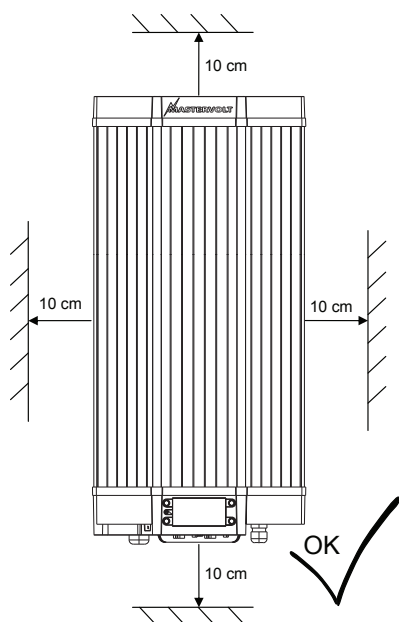

Figure 3
- No objects must be located within a distance of 10 cm around the Sunmaster (figure 3).